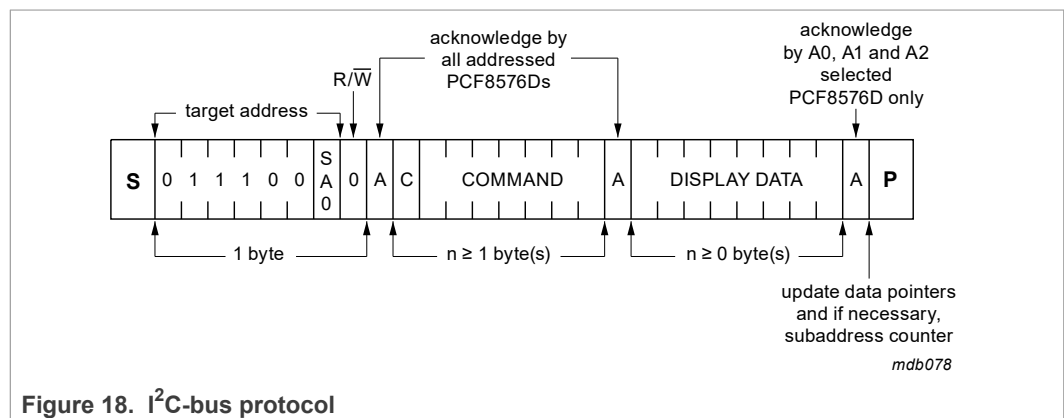

Figure 18. I²C-bus protocol
The I²C-bus protocol is shown in Figure 18. The sequence is initiated with a START condition (S) from the I²C-bus controller which is followed by one of two possible PCF8576D target addresses available. All PCF8576Ds whose SA0 inputs correspond to bit 0 of the target address respond by asserting an acknowledge in parallel. This I²C-bus transfer is ignored by all PCF8576Ds whose SA0 inputs are set to the alternative level.